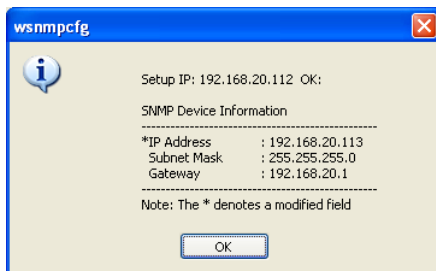

Figure 4. Setup IP Address successfully message.
9. If you set IP address successfully, you will receive the IP set up OK message, as shown in figure 4.